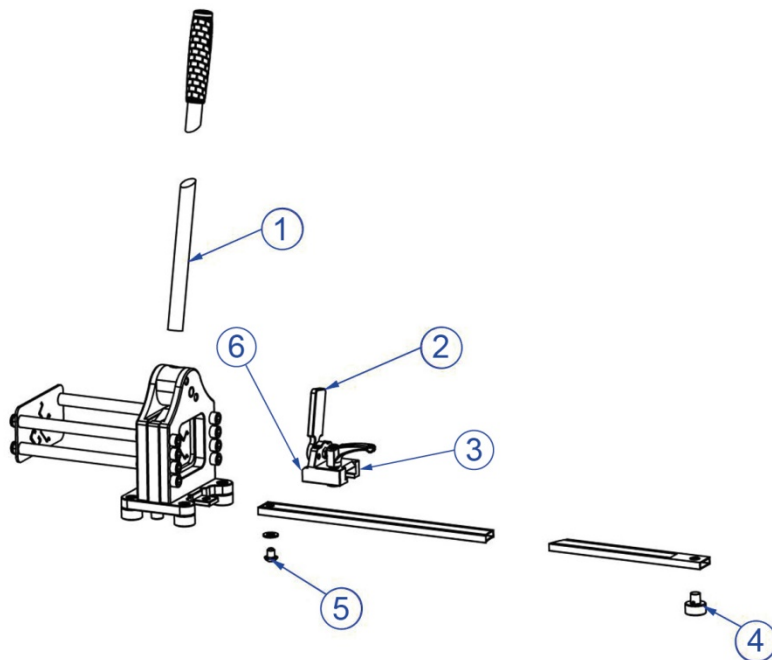

Fig. 3: Assembly sequence
- First screw-in the hand lever into the eccentric lever (fig. 3, item 1) and tighten.
- Then push the labelled ruler on the shoulder of the base plate and fasten with the M10x16 bolt and washer (fig. 3, item 5).
- Now move the limit stop (fig. 3, item 3) on the ruler, as shown, and click the individual metal foot (fig. 3, item 4) into the rear opening of the ruler.
- To do this, set the limit stop with the read-off edge (fig. 3, item 6), e.g. at 118 mm, and measure the distance between the stop flap (fig. 3, item 2) and the shear plate with a steel scale.
- Tighten the M10x16 bolt (fig. 3, item 5) so that the ruler is positioned exactly.